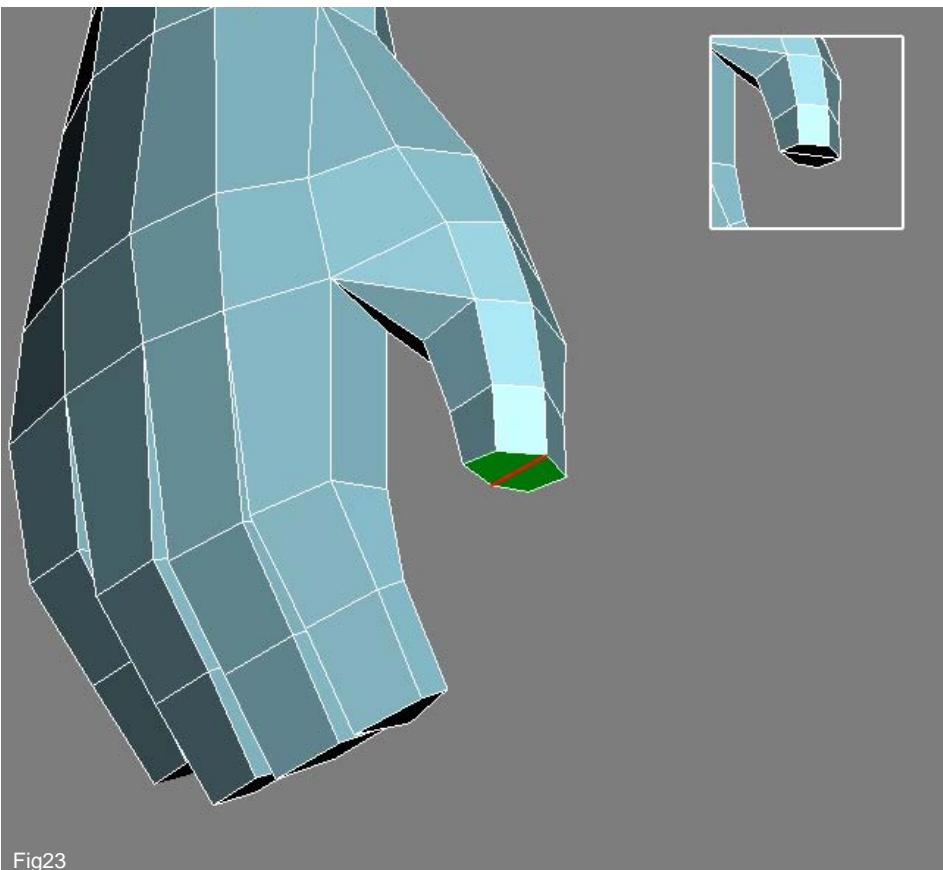

Fig23
23. You can then go on and extend the poly's to build the thumb. In Fig23 you will notice that I have re-oriented the poly's at the end to form a more even split compared to the original seen in the inset. This is not entirely necessary and may even inhibit a better shape when adding the curvature at the thumb tip but we are not adding much detail here so it should be ok.